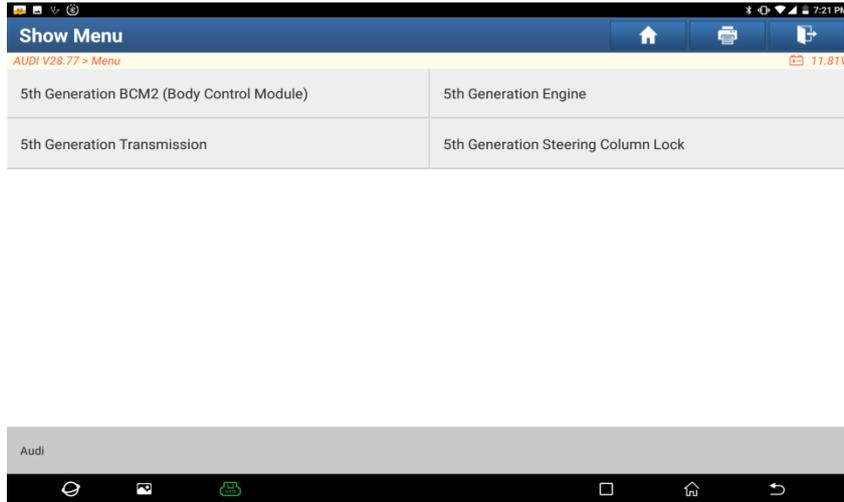

Figure 7
3.2.1.6 Click [OK], as shown in Figure 7.